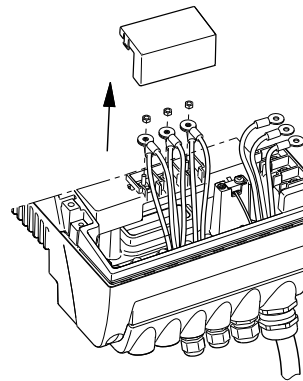

Fig. 24 Cover over the motor terminals
3. Remove the cover over the motor terminals. See fig. 24. Unscrew the nuts from the motor terminals.